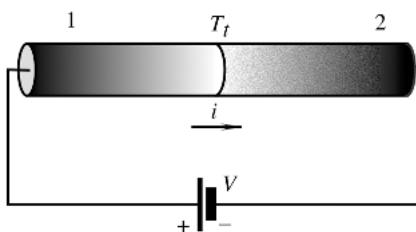

Figure 7: Peltier effect in single junction.
- (5p) (f) Figure 7 shows a single junction of two different materials. Explain (in maximally 200 words) why the Peltier effect results in the production or liberation of energy at a junction when a current is passed through this junction.